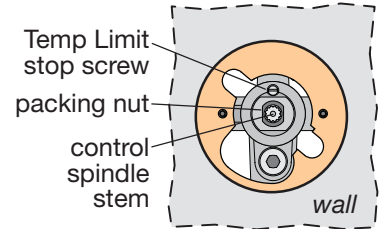

Figure 3 Limit stop screw
- Turn stop screw clockwise until it seats. Reference Figure 3.